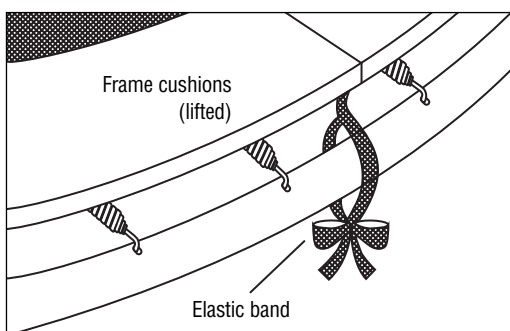

Fig. 5.3
- Pull the elastic bands not tied around the leg supports tightly, so that the frame cushions are covered. Tie both ends together (Fig. 5.3))